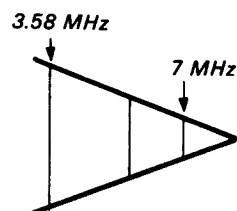

Fig. 9-9.
- 1) Adjust with RV003 [RV004] on the RP-34 board so that peak appears in the envelope of the RF waveform. (See Fig. 9-9. b))
- 2) Adjust with RV003 [RV004] on the RP-34 board so that the peak of the RF waveform envelope becomes small and the waveform from 3.58MHz to 7MHz section becomes almost a straight line. (See Fig. 9-9. c))